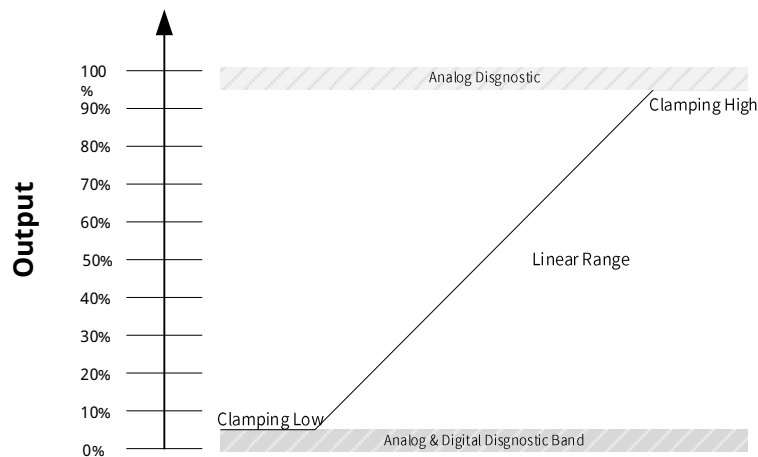

Fig.6 Example of Output Range for Typical Application
(1)Based on the description in the table above, the SC69431 can meet the output range settings for the typical application of Fig.6